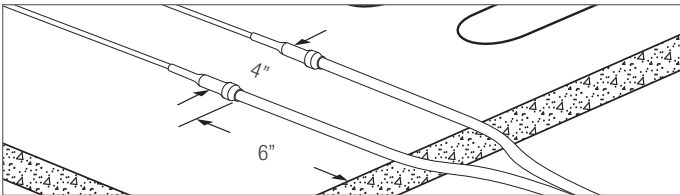

FIGURE 2.41b: Cold Lead Positioning
6. Space the second hot/cold joint at least 4" (100mm) away from first hot/cold joint and 6" (150mm) in from the edge of the slab. See Figure 2.41b.